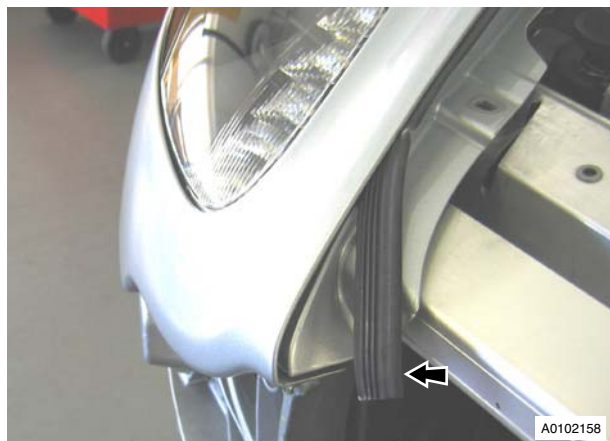

Figure 12
16. Remove hood/wing weatherstrip (see Figure 12).